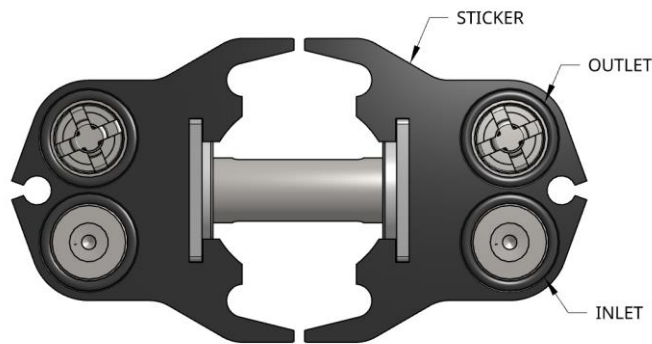

Figure 7
- Adjust plunger slot position towards center and have slot facing work surface. Replace all valves, o-rings, and white washers. Refer to video and figures for proper orientation. **IMPORTANT: It is imperative the alignment of OUT/IN ports coincide with valves as indicated in Figure 7.**